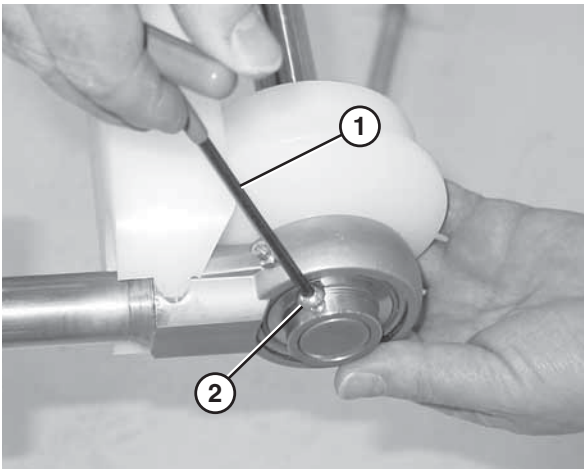

Figure 90
5. Use a hex wrench (**Figure 90, item 1**) to tighten the bearing shaft fasteners (**Figure 90, item 2**).